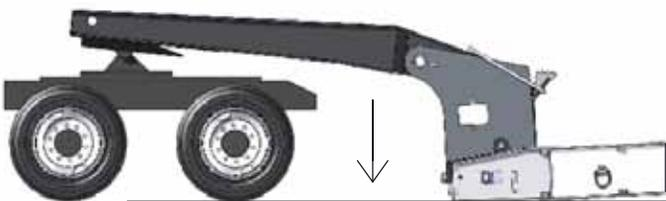
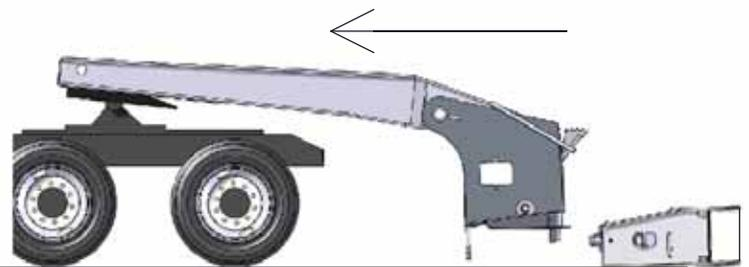

FIGURE 3
FIGURE 4
4. Push the deck height control lever (4) to lower the deck (Figure 3) to the ground. Continue to lower the gooseneck until there is approximately 1/4" clearance between the bottom of the deck pin and the gooseneck connecting links (7). When this clearance is obtained return the control lever to neutral.
5. Lower the frame lift (5) with the frame lift control lift (3) until the gooseneck is carried by the tractor or dolly, but still free of the deck.
7. Flip the air lock control knob (1) to the unlock position which will retract the lock pin from the deck. A minimum of 65 PSI is required for this operation.
8. The gooseneck is now ready to be detached. Pull slowly forward thereby removing the gooseneck from the deck (Figure 4). Once the gooseneck has cleared the lock area, the frame lift may be lowered more to allow for more ground clearance, if the operator desires. Stop the hydraulic supply.